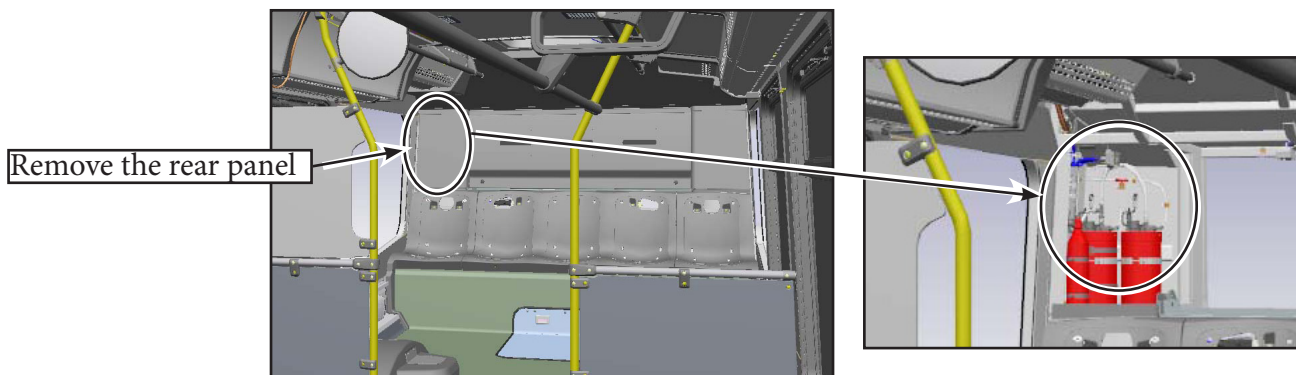

Figure 15 - Remove the Rear Panel
2.2. Remove the rear panel to access the Fire Suppression System (FSS) area (see Figure 15).